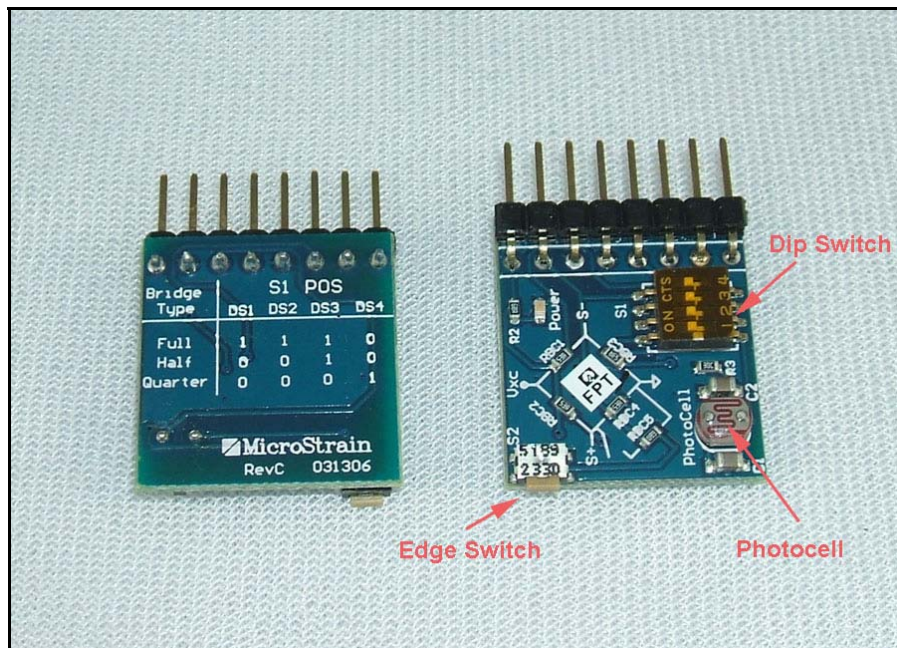

Figure 1
- Set switches 1, 2 and 4 to OFF and switch 3 to ON. As you view **Figure 1**, switches 1, 2 and 4 would be to the right and switch 3 would be to the left.